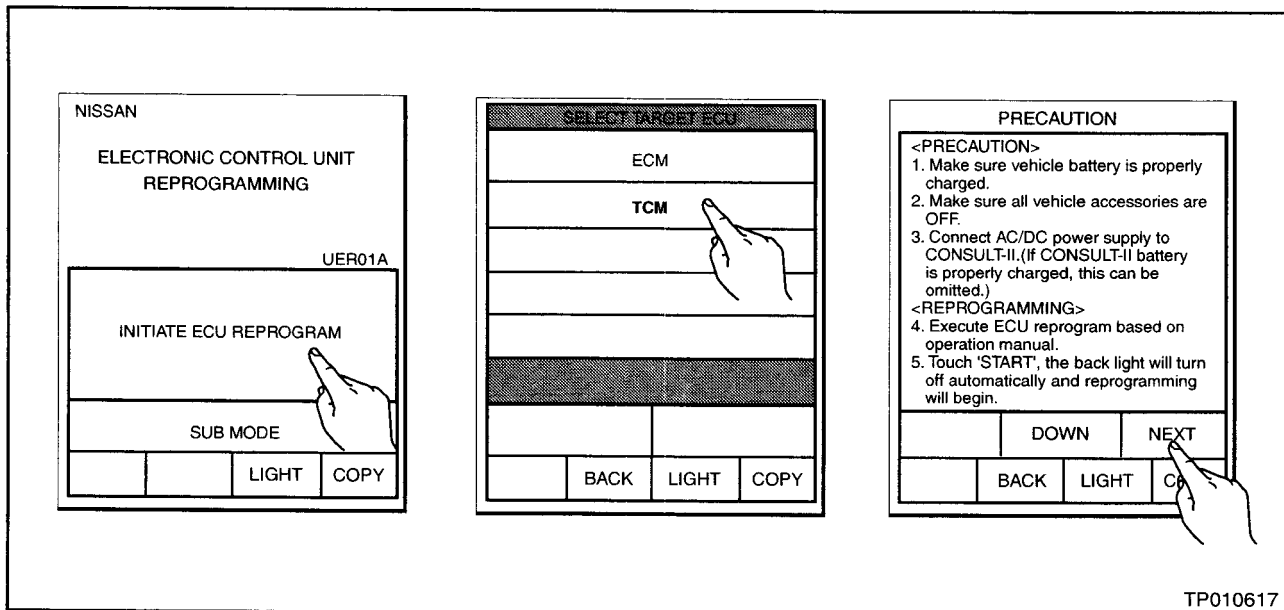

Figure 8
36. Press “Initiate ECU Reprogram” (see Figure 8), then do the following: